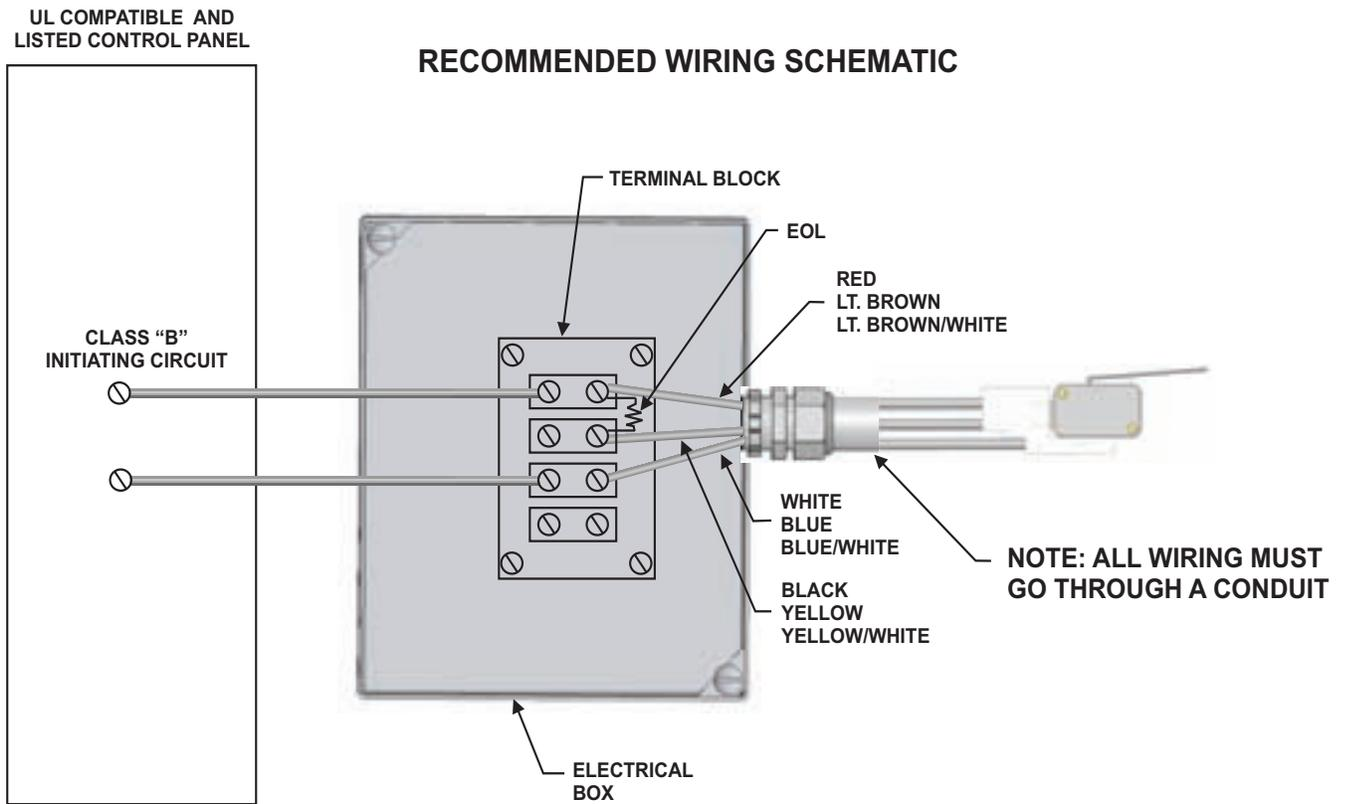

Figure 4-50. A+ Microswitch Wiring Schematic for Alarm Initiation
Refer to Figure 4-50 for alarm initiation wiring diagram.
**Note:** Not for alarm initiation (See Figure 4-50 for alarm initiation wiring).